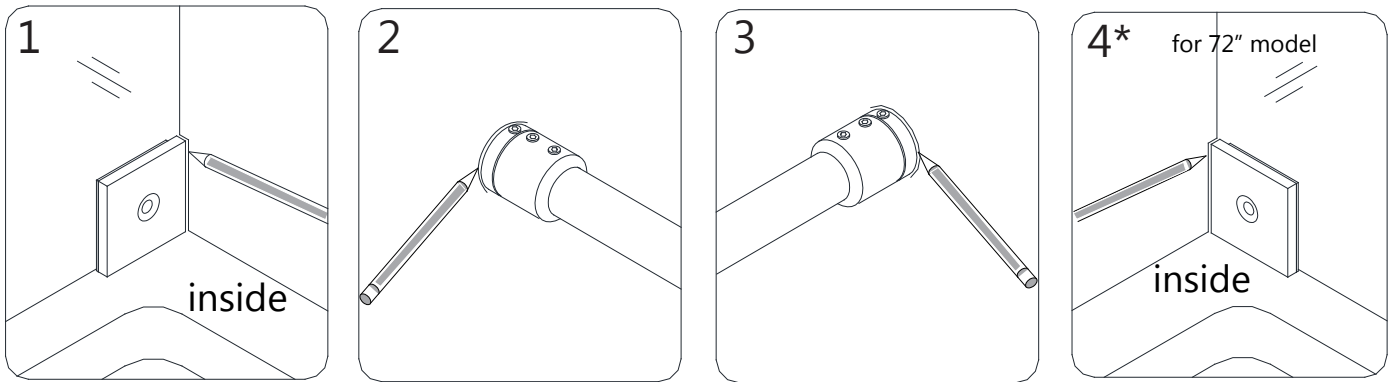

Fig 9
***NOTE:** If installing the **72" model**, also mark the position of the **Wall Bracket (#19)** on the opposite wall for the **Small Stationary Panel Glass (#23)** (see Fig 9.4*). **(Fig 9)**